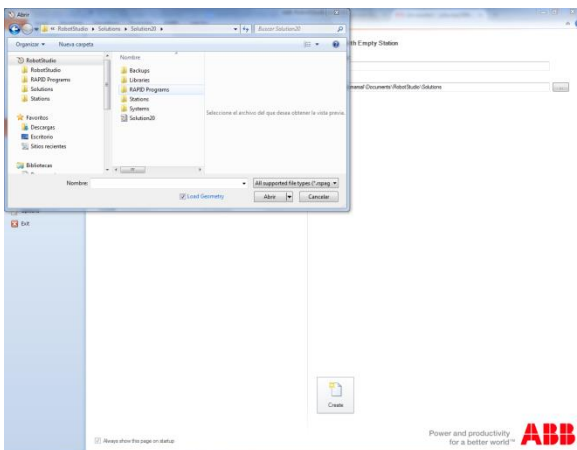
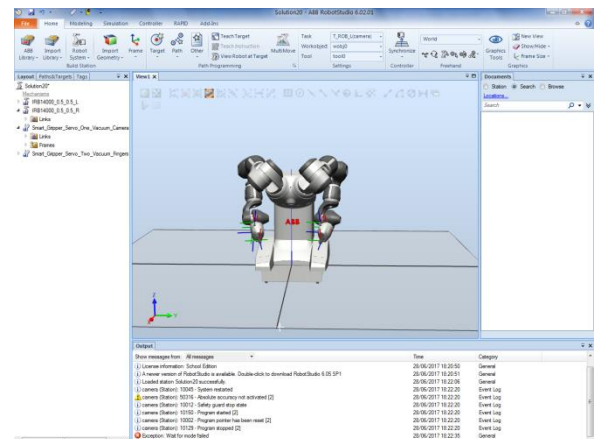

Fig. 2 How to open a previous workstation
Fig. 3 Workstation
3. Open a previous station creation, as it shows in figure 2. It has to appear yumi's robot with the grippers, as we explained on the part I- 1, as it shows in figure 3:
Fig. 3 and 4 Making the connection